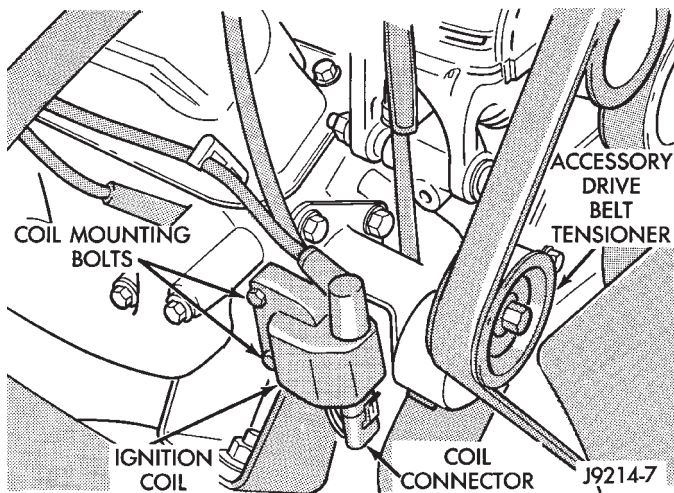

Fig. 24 Ignition Coil—5.2L Engine—Typical
The ignition coil is mounted to a bracket near the front of the right engine cylinder head on 5.2L engines (Fig. 24).
(1) Disconnect the wiring and secondary cable from the ignition coil (Fig. 24).